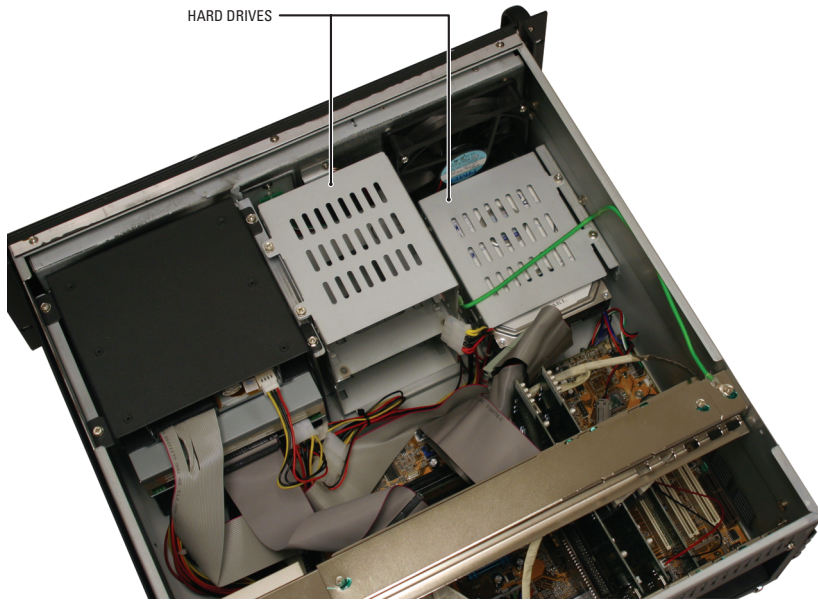

Figure 2. Locating the Hard Drives
4. Locate the hard drives in the front of the DVR (refer to Figure 2). There is one hard drive cage in the center front that can hold as many as four hard drives. There is another against the side of the chassis that can hold as many as two hard drives. The top hard drive in the two-drive cage is the primary master that will be replaced.